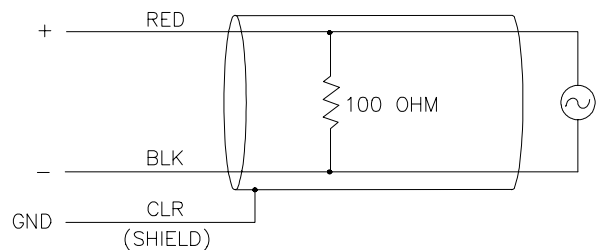

Figure 1. LI200S Schematic
The LI200S (refer to Figure 1) outputs a low level voltage ranging from 0 to a maximum of about 12mV depending on sensor calibration and radiation level. A differential voltage measurement (Instruction 2) is recommended because it has better noise rejection than a single-ended measurement.
-Sensor Calibration: Assume the sensor calibration is 87 microamps $\text{kW}^{-1} \text{m}^{-2}$. The LI200S outputs amperage which is converted to voltage by 100 ohm shunt resistor in the cable, as shown in Figure 1. To convert the calibration from microamps to millivolts, multiply the calibration by 0.100. The example calibration changes to 8.7 mV $\text{kW}^{-1} \text{m}^{-2}$.